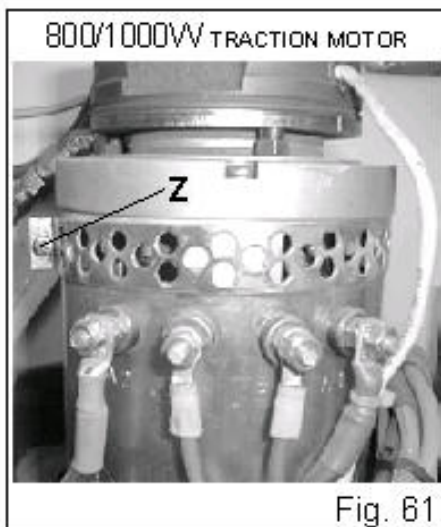

Fig. 61
- 2) CROSSHEAD SCREWDRIVER, SPRING TENSIONER - Use the screwdriver to unscrew and remove the brushes protection band (Ref. Z Fig. 61) in order to gain access to the motor brushes. Use the same screwdriver to unscrew and remove the screws fixing the rear part of the brush to the brush-holder (Ref. X Fig. 62) then use the tensioner to lift the brush spring (Ref. K Fig. 62); remove the brush and then perform the same sequence of operations for the other three brushes. At this point renew the brushes.